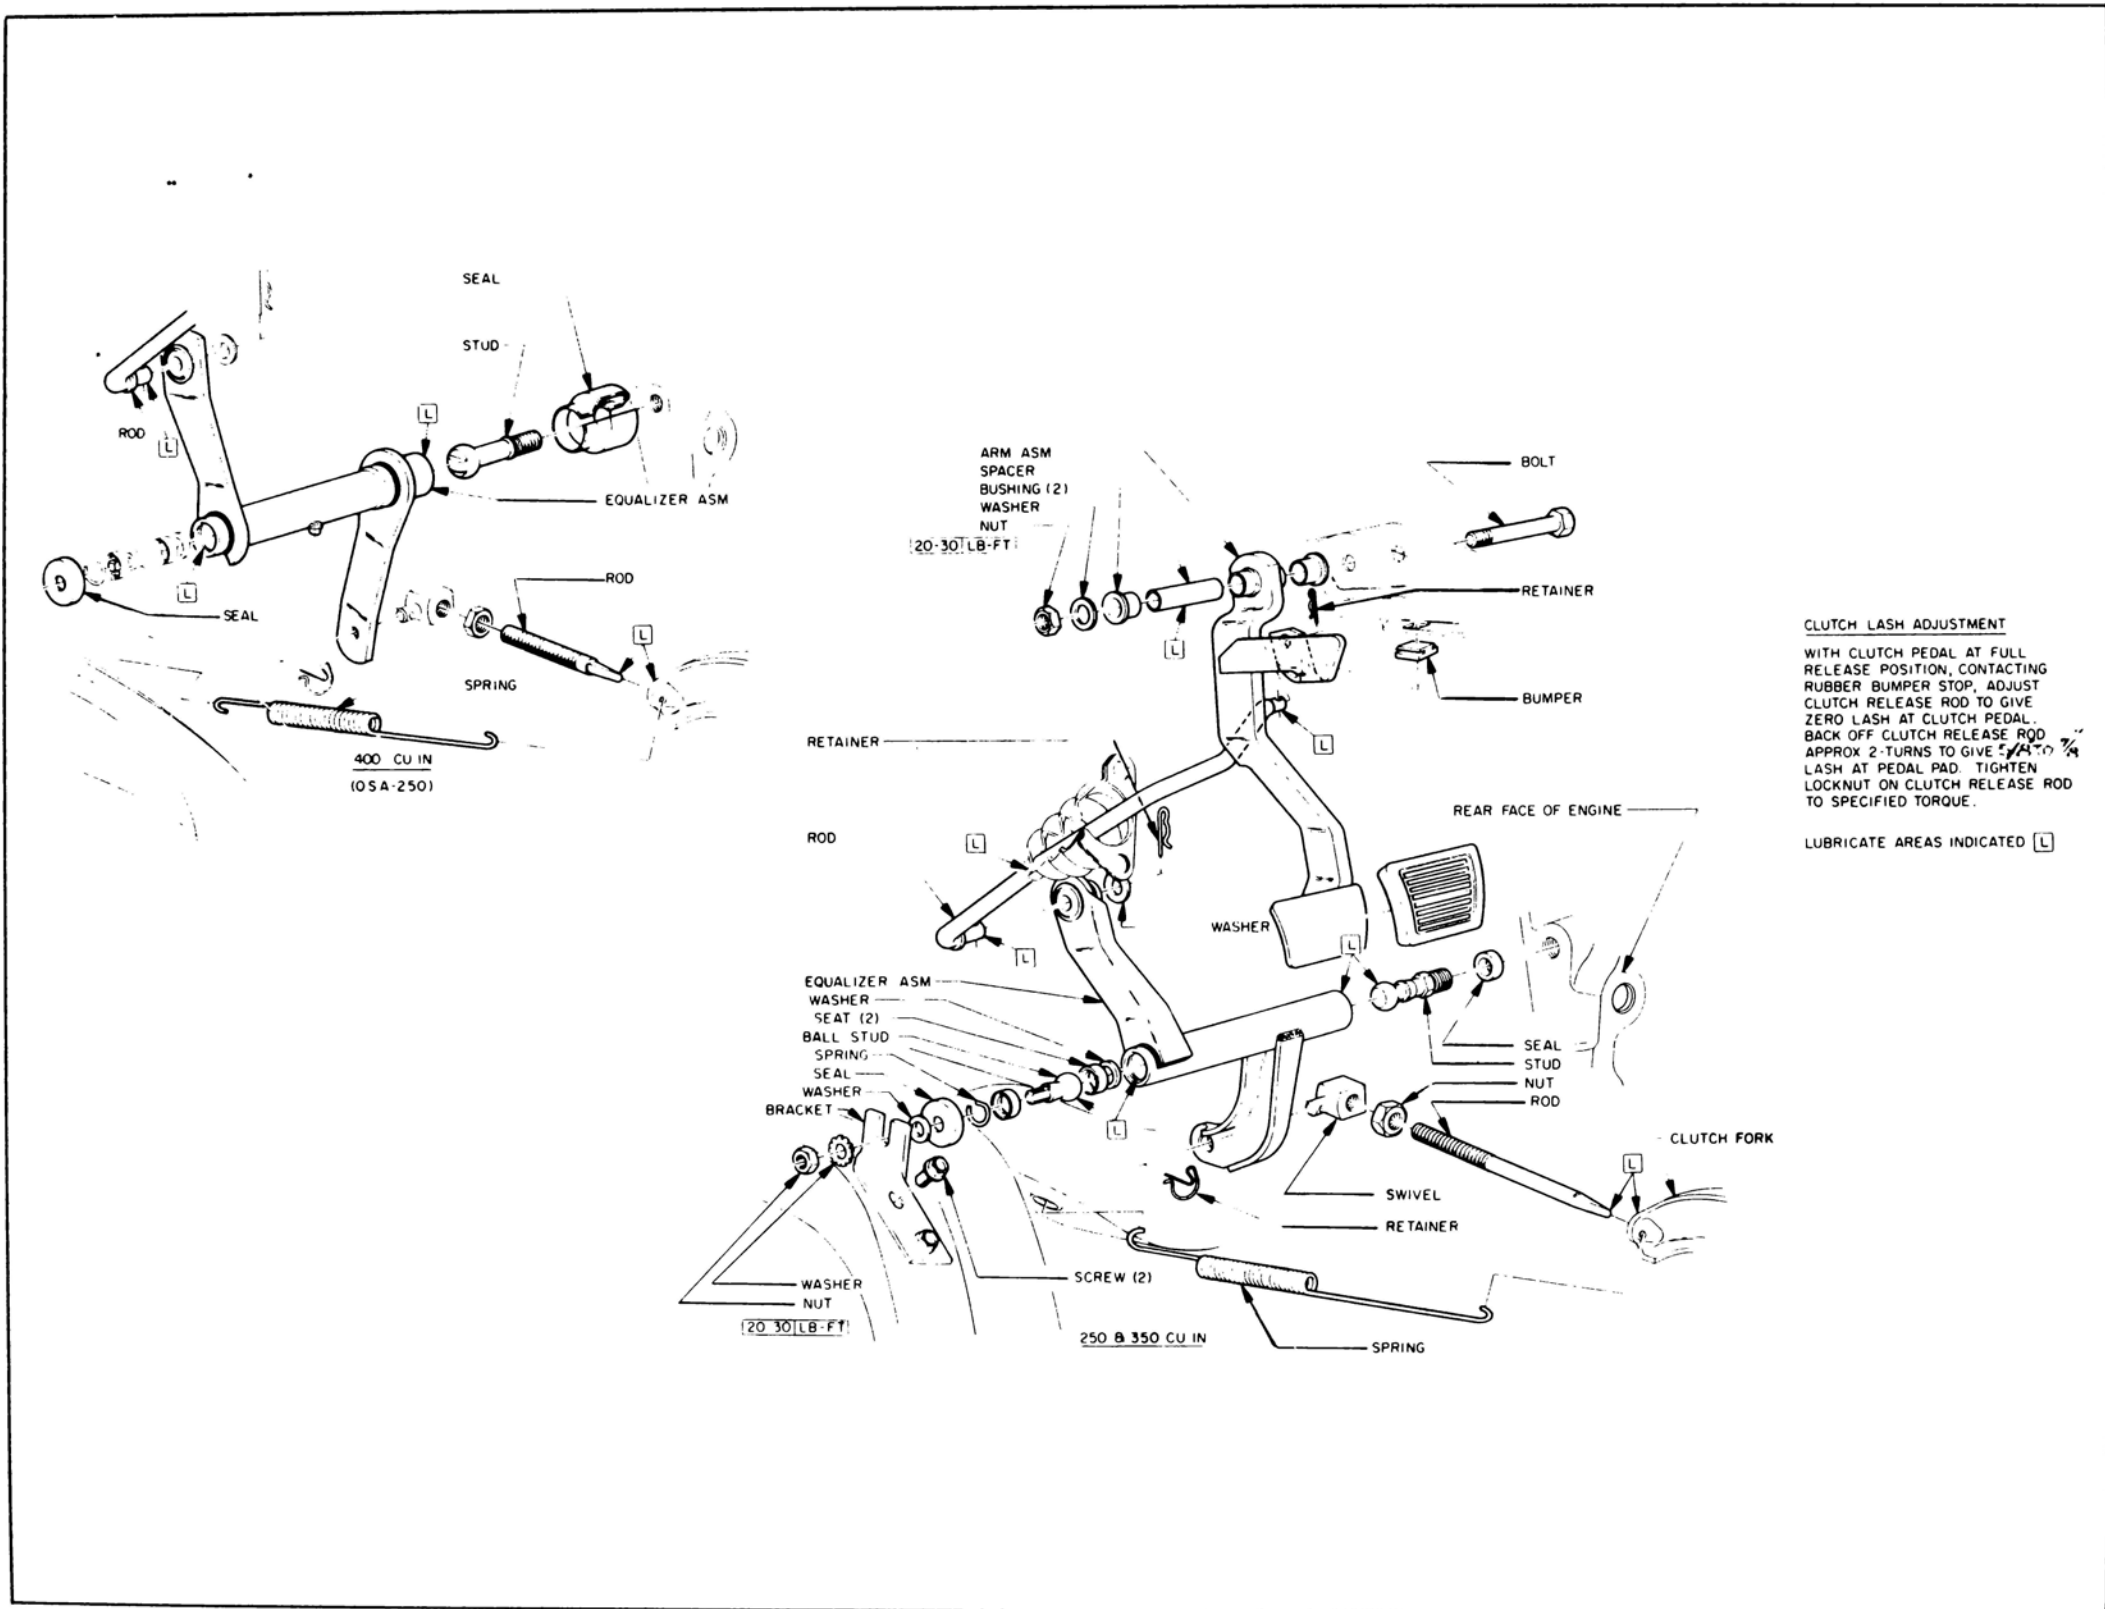

Figure 71-1—Special, Skylark, G.S. 350 and G.S. 400 Clutch Linkage
2. On Special, Skylark, G.S. 350 and G.S. 400, see Figure 71-1.
**d. Installation of Clutch (Refer to Figures 71-1, 71-2, 71-4 and 71-5)**